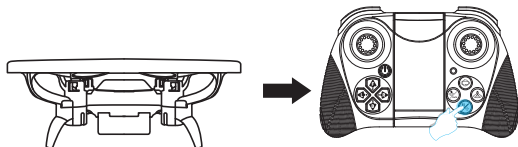
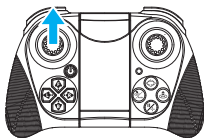
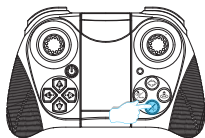

Figure 1
Figure 2
Figure 3
4.1 Press the upper and lower ends of the battery with your fingers according to Figure 1, then slide the battery down according to Figure 2, and then remove the battery.
Press and hold the calibration button on the remote control  $\frac{||}{-}$ , the LED light on the aircraft flashes quickly. The LED lights on the aircraft are always on, which means the calibration is complete, and the remote controller emits a "beep" (Figure 1).
Push the left control lever on the remote control upward (Figure 2). At this time, the aircraft can take off normally. After taking off, all the indicator lights of the aircraft will always be on. During the flight, whether you short press the  key, the aircraft will stop flying (Figure 3).